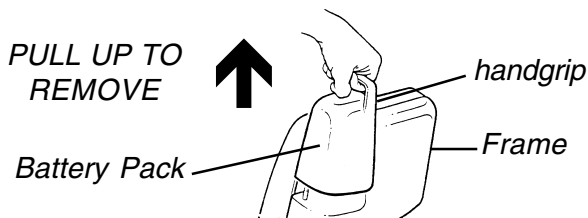

FIGURE 7 - REMOVING THE BATTERY PACK
8. Remove the battery pack by grasping the handgrip on battery pack and pulling upwards (FIGURE 7).